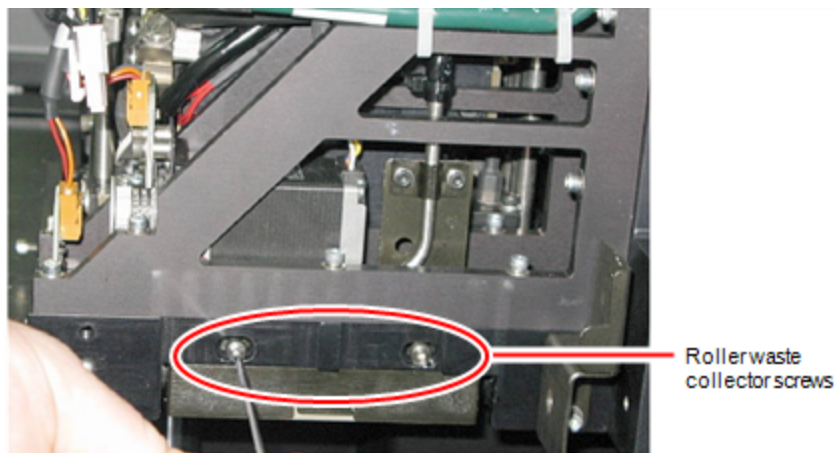

Figure 4-45 Removing the roller waste collector covering
1. Return the roller waste collector to the print block and screw on the covering (see Figure 4-45 on the previous page).